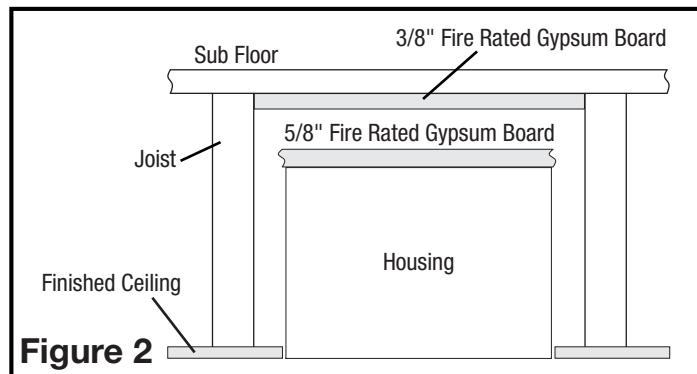

Figure 2
1. As per UL and CUL fire resistance construction, install a minimum 3/8" Fire Rated gypsum board 18" long so that it is centered above the fan. The gypsum board must span the distance between the joists, typically 14.5" for joists on 16" centers (**Figure 2**).